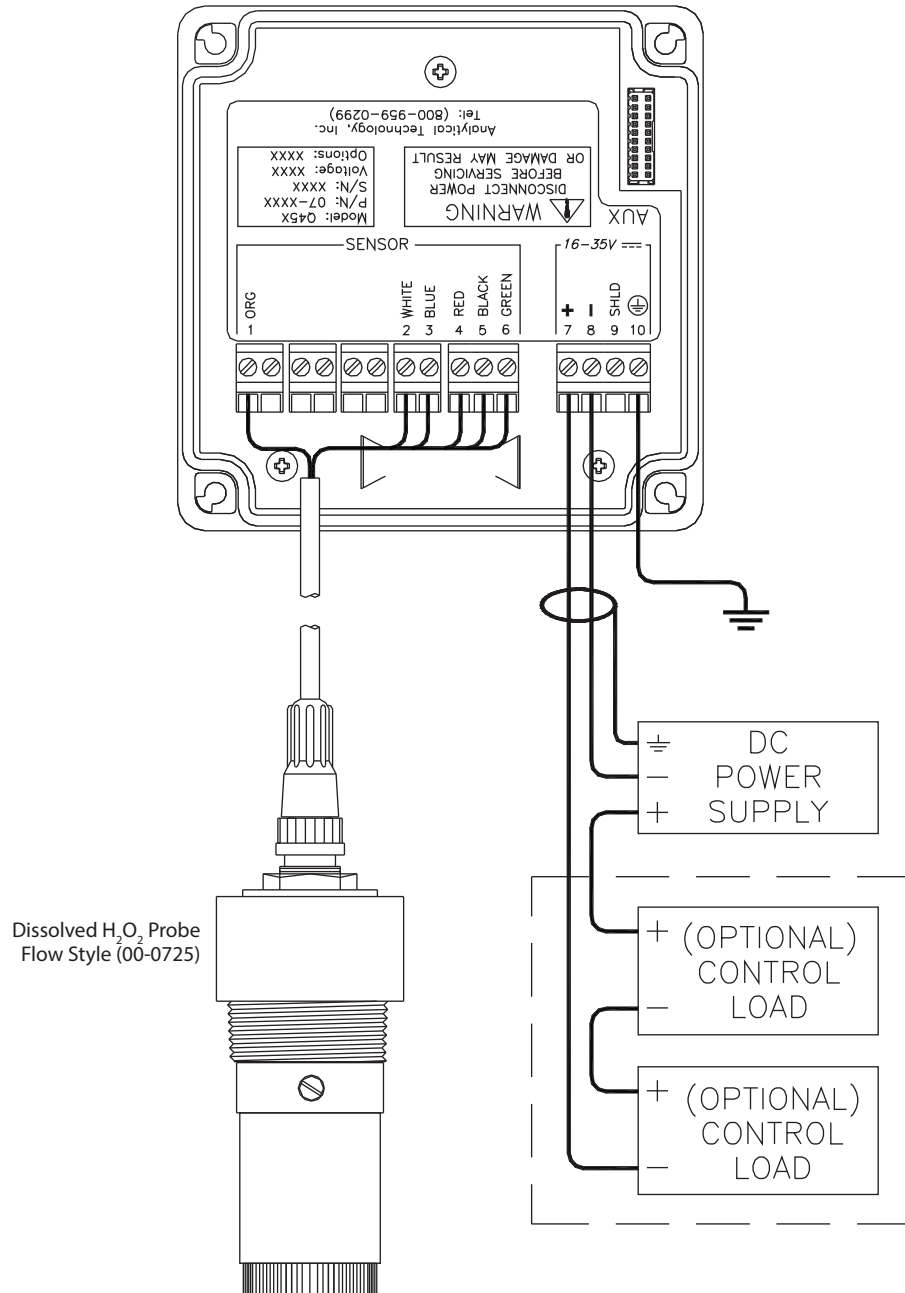

Figure 9: Loop-power connection, Q45 transmitter
1. Use wiring practices that conform to all national, state and local electrical codes. For proper safety as well as stable measuring performance, it is important that the earth ground connection be made to a solid ground point from terminal 12, Figure 9 on page 15.
In the two-wire configuration, a separate DC power supply must be used to power the instrument. The exact connection of this power supply is dependent on the control system into which the instrument connects. See Figure 9 for further details. Any twisted pair shielded cable can be used for connection of the instrument to the power supply. Route signal cable away from AC power lines, adjustable frequency drives, motors or other noisy electrical signal lines. Do not run sensor or signal cables in conduit that contains AC power lines or motor leads.
Sensor connections are made in accordance with Figure 9 on page 15. The sensor cable can be routed into the enclosure through one of the cord-grips supplied with the unit. Routing sensor wiring through conduit is only recommended if a junction box is to be used. Some loose cable is needed near the installation point so that the sensor can be inserted and removed easily from the flowcell.